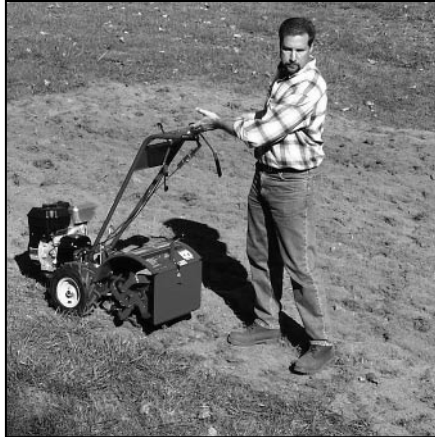

Figure 4-3: Raise tines off ground and look behind when moving in reverse.
- (b) Stop all forward motion before reversing. Lift the handlebars with one hand until the tines are off the ground and then pull the Reverse Clutch control knob out to engage reverse motion (see Figure 4-3). To stop reverse motion, let go of the Reverse Clutch control knob.